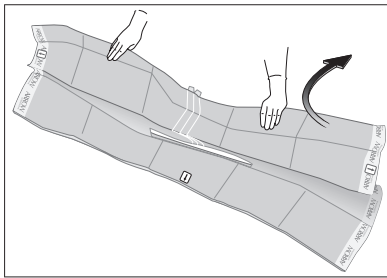

Figure 14
- Unfold towards head (refer to Figure 14).